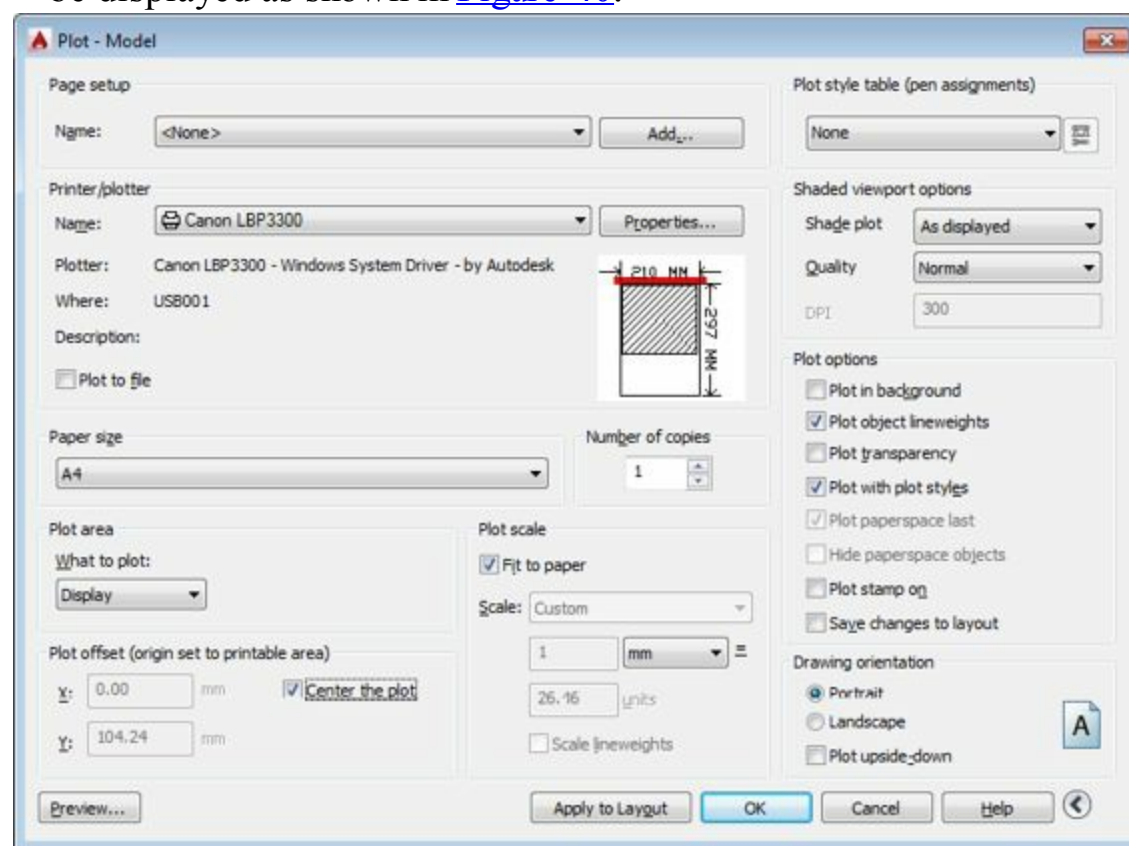

Figure-40. Expanded Plot dialog box
- Click on **More options**  button or press **ALT + >** to expand the dialog box. The dialog box will be displayed as shown in Figure-40.